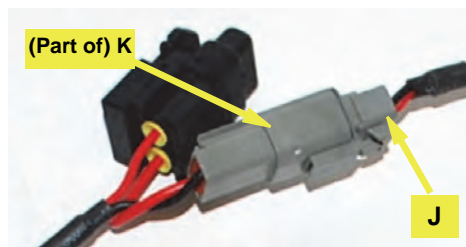

Figure 5c: Power cable connected to junction box cable
- d. Connect the gray connector of the power cable **J** (routed into the cab at step 5a) to the gray cable from the junction box **K** (Figure 5c).